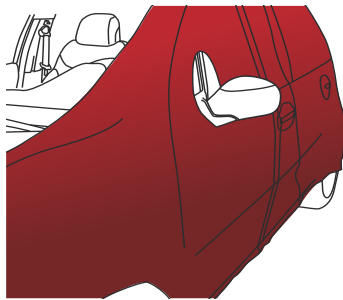

Figure 23
- › The film is stretched over the entire surface area to be wrapped. Now you can apply the film (FIG. 23) according to the type of surface.